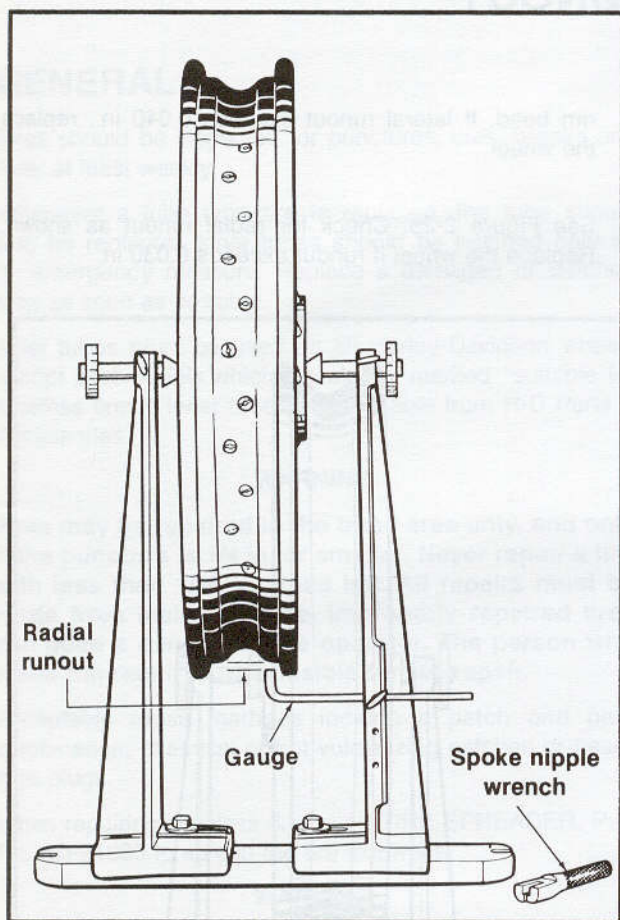

Figure 2-23. Truing Rim Radially
6. See Figure 2-23. After rim has been centered sideways it must be checked and trued radially. Adjust truing stand gauge to the rim's tire bead seat as shown. The rim should be trued within 1/32 in.